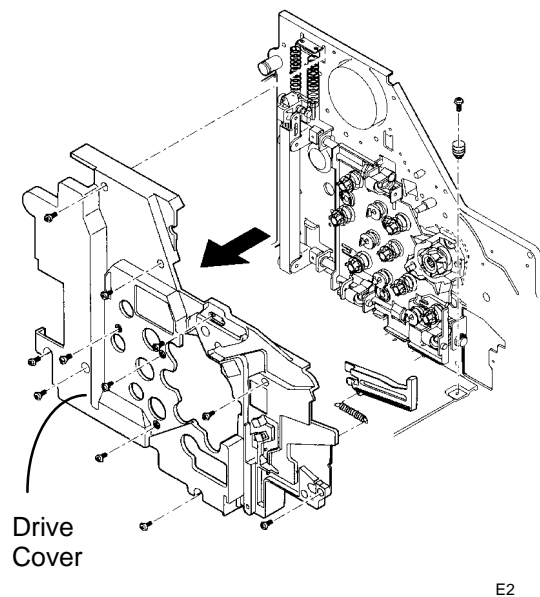

Figure 2. Removing the Drive Cover
- (Figure 2): Remove the Drive Cover.